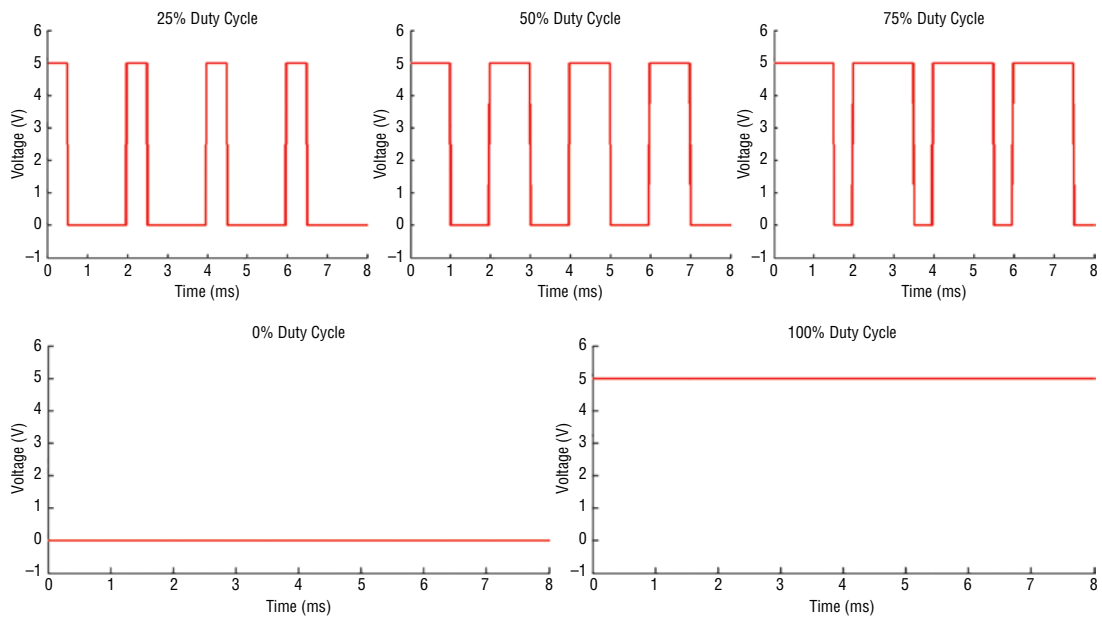

Figure 2-4: PWM signals with varying duty cycles
PWM control can be used in a lot of circumstances to emulate pure analog control, but it cannot always be used when you actually need an analog signal. For instance, PWM is great for driving direct current (DC) motors at variable speeds (you'll experiment with this in Chapter 4, "Using Transistors and Driving DC Motors"), but it does not work well for driving speakers unless you supplement it with some external circuitry. Take a moment to examine how PWM actually works. Consider the graphs shown in Figure 2-4.
The graphs in Figure 2-4 show that for a signal with a duty cycle of 25 percent, it is high 25 percent of the time, and low 75 percent of the time. The frequency of this square wave, in the case of the Arduino Uno, is about 490 Hz. In other words, the signal varies between high (5V) and low (0V) about 490 times every second.